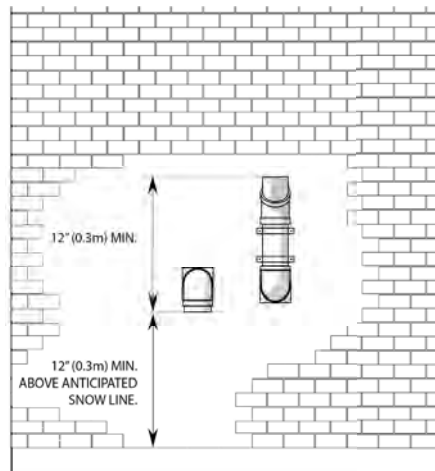

Figure 14: Sidewall detail
- The elevation of both pipes can be raised in "periscope style" after passing through the wall, then configured as in *Figure 14 and 15* to gain required clearance.